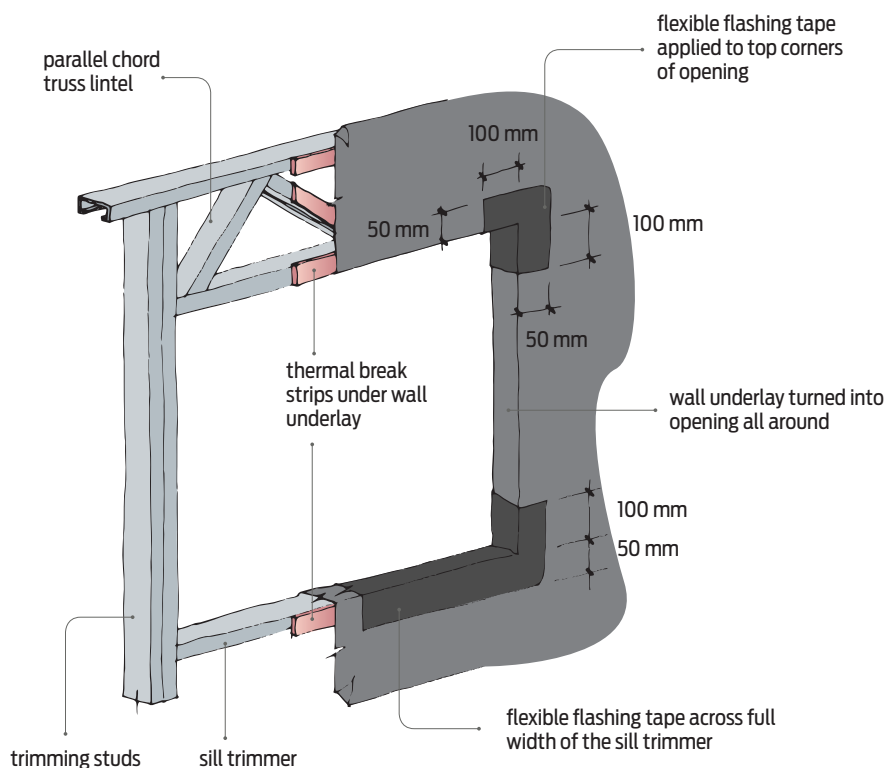

Figure 1
- Flexible flashing tape applied to the top corners of window and door openings and extended 100 mm from the corners both horizontally and vertically (see Figure 1).
- Flexible flashing tape applied across the full opening width of the sill and extended vertically 100 mm up the trimming studs under the jamb battens (see Figure 1).